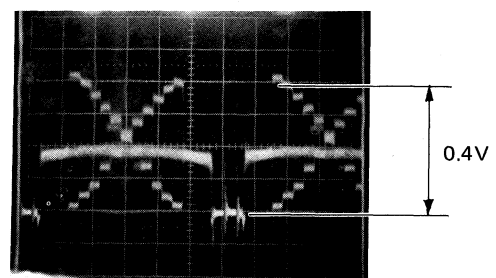

Fig. 4-2-32
- Adjust AGC SET VR2 for $0.4\text{V} \pm 0.02\text{V}$ from the blanking level to the top step of the gray scale waveform. (Fig. 4-2-32)
- Adjust MANUAL GAIN VR1 for $0.4\text{V} \pm 0.02\text{V}$ from the blanking level to the top step of the gray scale waveform. (Fig. 4-2-32)